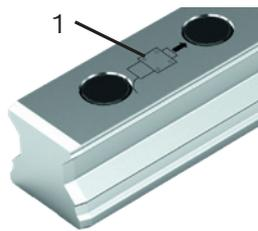

Fig. 4: Preparatory steps
- ▶ The Runner Block must be pushed on after the installation of the Guide Rail as shown in Fig. 4.
- ▶ Warning: when a cover strip is used, the mark (1) is covered and the push-on direction is no longer visible.